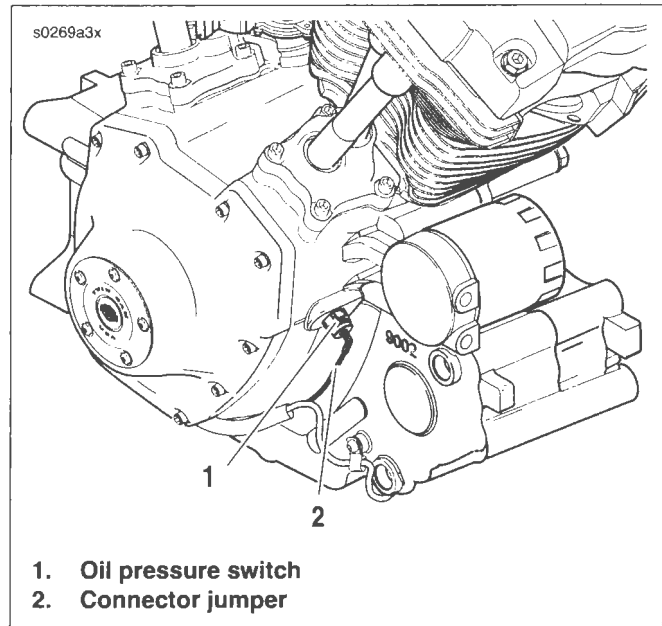

Figure 8-85. Oil Pressure Switch
See Figure 8-85. The oil pressure switch monitors oil pressure in the crankcase. If the oil pressure drops below 3 psi (20.6 kPa), the oil pressure switch is tripped and illuminates the low oil pressure indicator light. The oil pressure switch is located on the right side of the crankcase.
1. See Figure 8-85. Remove connector jumper (2) from oil pressure switch (1).
2. Using a 15/16 in. open end wrench, remove switch (1) from crankcase.
2. See Figure 8-85. Install oil pressure switch (1) to crankcase.
4. Attach connector jumper (2) to oil pressure switch.